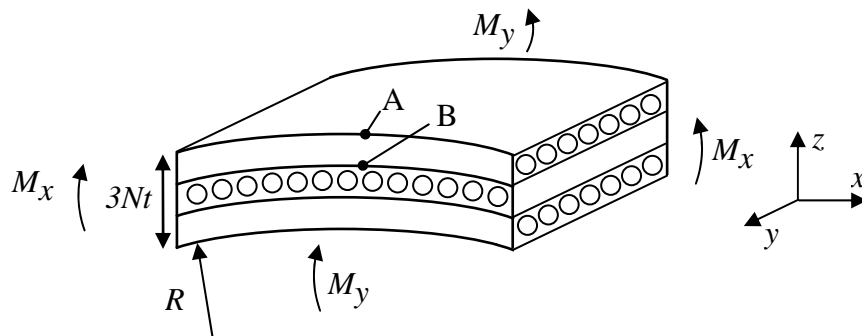

Fig. 1
3 Figure 1 illustrates a laminate made of Scotchply/1002 GFRP composite (properties on the datasheet). The plate has an initial radius of curvature R and is made up of three layers each containing N plies of equal thickness t . The plies in the outer layers are orientated in the 0° direction along the x direction in the plate while the central layer consists of 90° plies running in the y direction. The thickness of the plate is small compared with its in-plane dimensions and radius of curvature, so that it can be modelled using laminate plate theory. The stiffness and compliance matrices $[S]$ and $[Q]$ for each ply are given by
- (a) The plate is subject to bending moments M_x and $M_y = 0.0572M_x$ per unit length as illustrated in Fig. 1. Show that the resulting curvature κ_y is effectively zero. Derive expressions in terms of M_x , N and t for the curvature κ_x of the plate and for the in-plane strains (in the x - y plane of the plate) both at the top and bottom of the top layer of 0° plies (i.e. at locations A and B marked on Fig. 1). [35%]